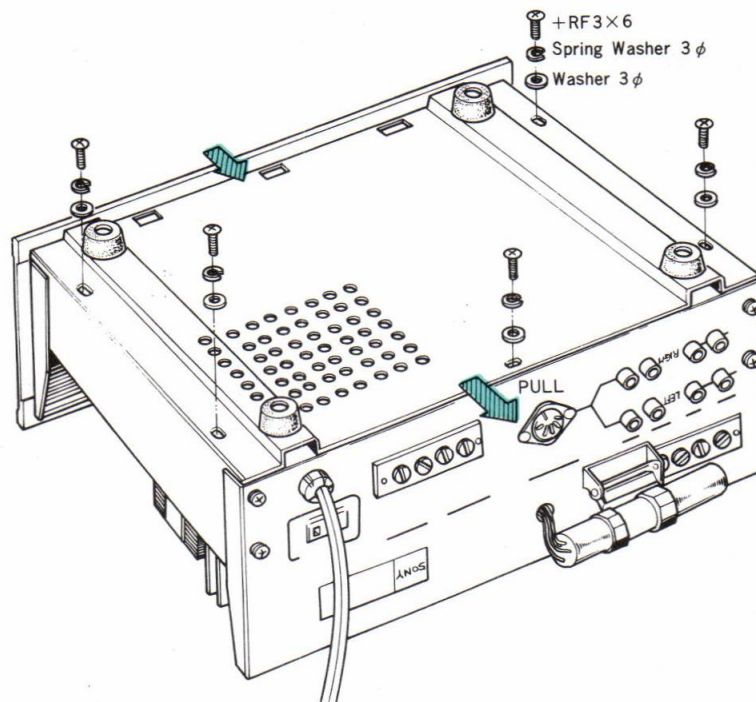

Fig. 2-1 Removal of bottom plate
2. Remove five Phillips-Head screws (+RF 3×6) at the bottom of the receiver and pull the bottom plate toward the rear of the receiver. See Fig. 2-1.